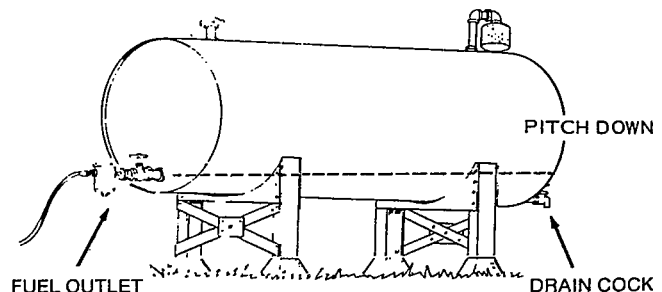

FIGURE 8. FUEL STORAGE
2. Pitch fuel tanks away from the fuel outlet and provide a drain cock to drain off water and sediment. The fuel outlet should be located several inches above the bottom of the tank, Figure 8.